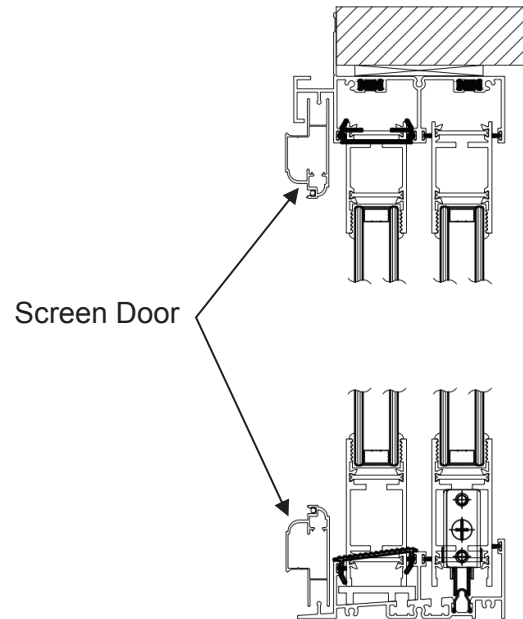

FIGURE 19
22. Install screen door by snapping into head and sill screen channels as shown in Figure 19.